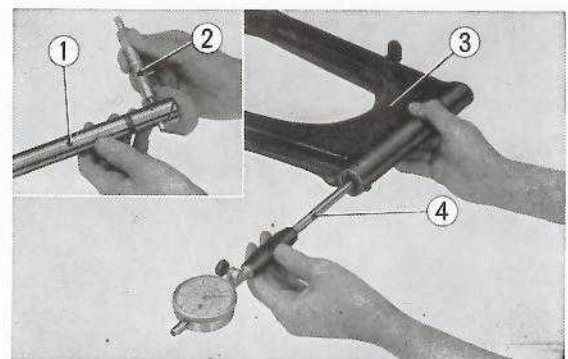

Fig. 12-9 ① Center collar
3. Measure the bores of the rear fork pivot bushing with a inner dial gauge and the outside diameter of the center collar with micrometer, and if they are not within the serviceable limit shown below, they should be replaced. (Fig. 12-9)